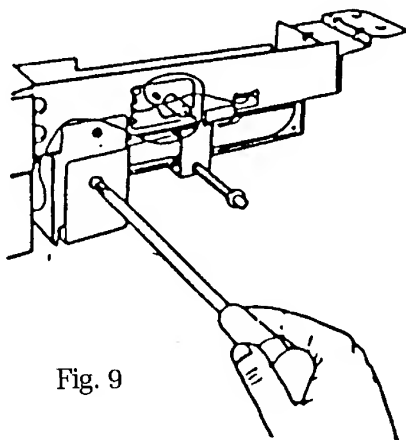

Fig. 9
3. Remove single screw holding the coupler cover in position (Fig. 9). Remove cover. Remove screws securing the stabilizing bracket and rotate to allow access to the large hexagonal nut.